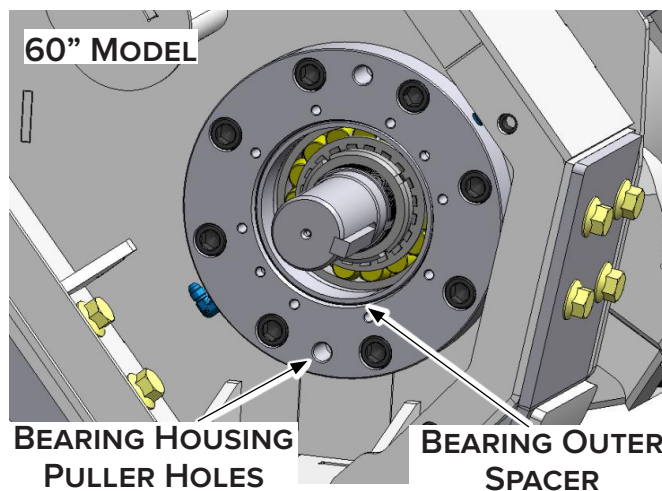
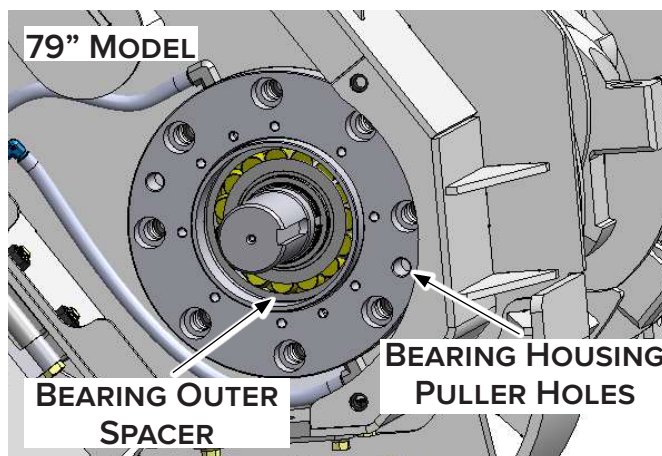

Figure 24
Figure 25
12. Apply lubricating oil on the threads of two (2) of the M16 bearing housing screws and use in the puller holes to separate the bearing housing away from the side wall along with the bearing and both inner and outer spacers inside the housing. See Figure 24 and Figure 25.